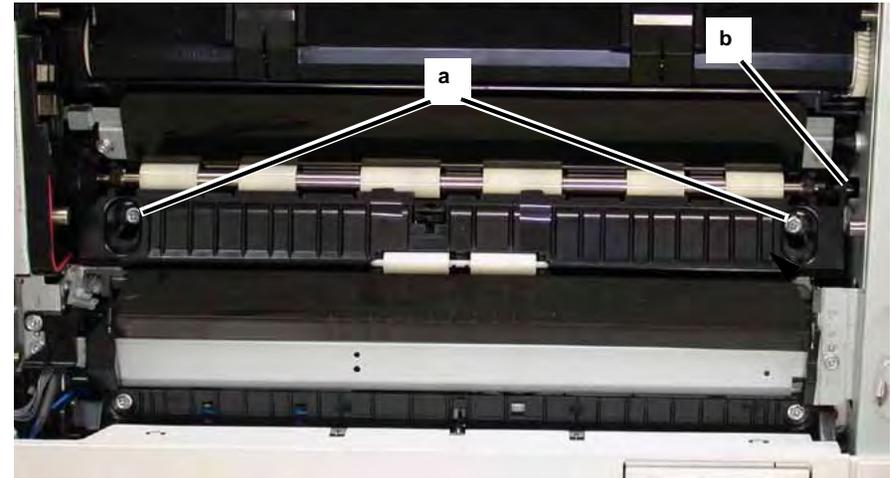

Figure 3 Removing Screws
5. Perform the following (Figure 3).
- a. Remove the transport Screws (2).